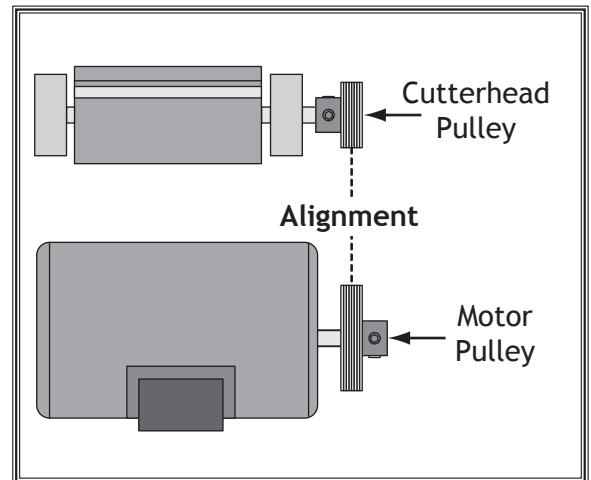

Figure 64. Proper pulley alignment.
6. Tighten set screws, replace belt, and repeat **Step 3** to verify proper pulley alignment. Pulleys should be aligned, as shown in **Figure 64**, when belt is properly tensioned.